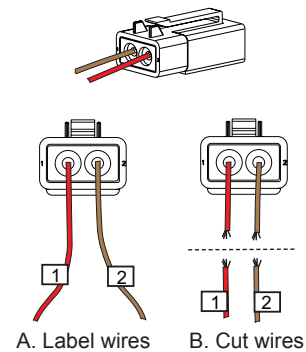

Figure 1: Cut Field Coil Wires from Existing Connector
- d. Label and cut wires from shell side of existing connector. Strip 1/4 inch of insulation off each wire. See Figure 1.